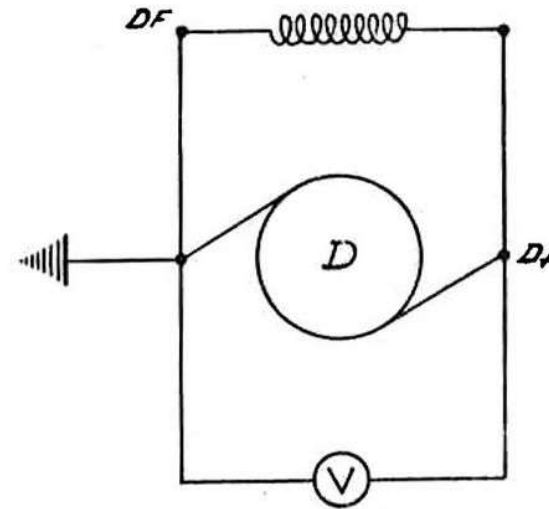

Fig. 120 - Diagram of the idle dynamo test.
a) Idle test: Fix the dynamo on the express test bench. Connect the DF clamp to the mass and insert the voltmeter between the D + and the mass (Fig. 120). Slowly increase the revolutions until a voltage of 6 V. is achieved. At this point the number of revolutions should be less or equal to 1450 revs per minute.